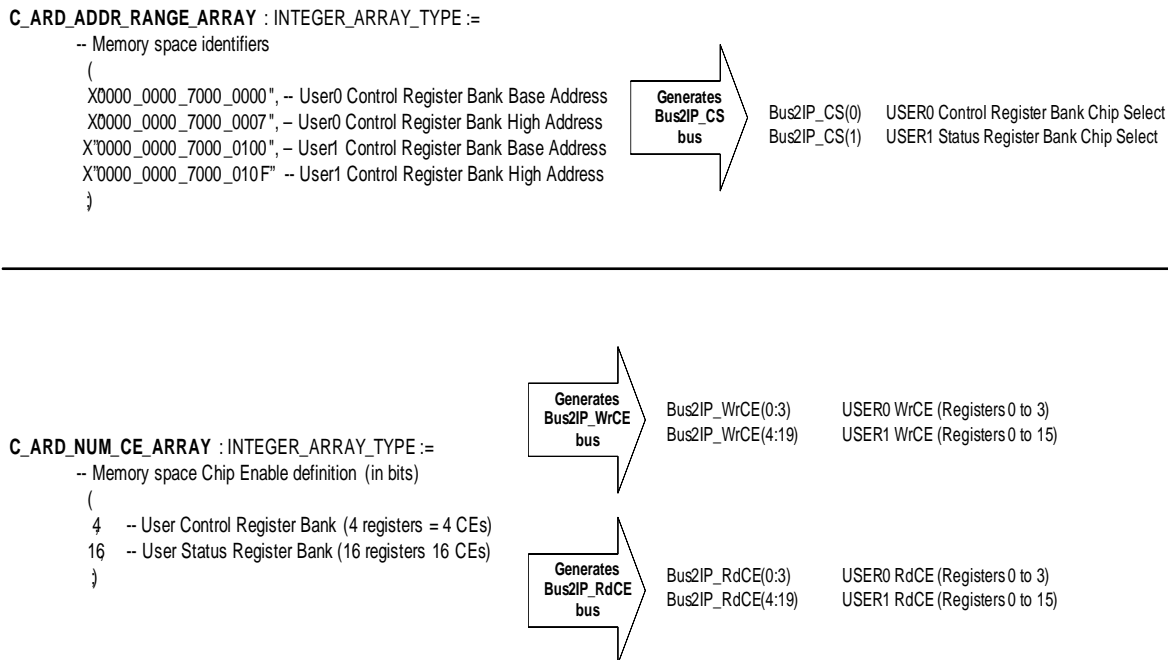

Figure 8: ARD Arrays and CS/CE Relationship Example
Implementing Chip Select (CS) and Chip Enable (CE) signals is a common design task that is needed within microprocessor-based systems to qualify the selection of registers, ports, and memory via an address decoding function. The AXI Lite IPIF implements a flexible technique for providing these signals to users via the ARD parameters. As such, the user must understand the relationship between the population of the ARD array parameters and the Bus2IP_CS, the Bus2IP_RdCE, and the Bus2IP_WrCE buses that are available to the user at the IPIC interface with the Slave Attachment. An example of ARD Array population and the resulting CS and CE bus generation is shown in Figure 8. The signal set to use for User IP functions is up to the user and the design requirements. Unused CE and CS signals and associated generation logic will be trimmed during synthesis and PAR phases of FPGA development.